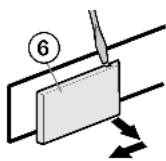

Fig. 6
- ▶ Using a screwdriver, detach the cover on the handle side *Fig. 6 (6)* and draw it outwards for removal.